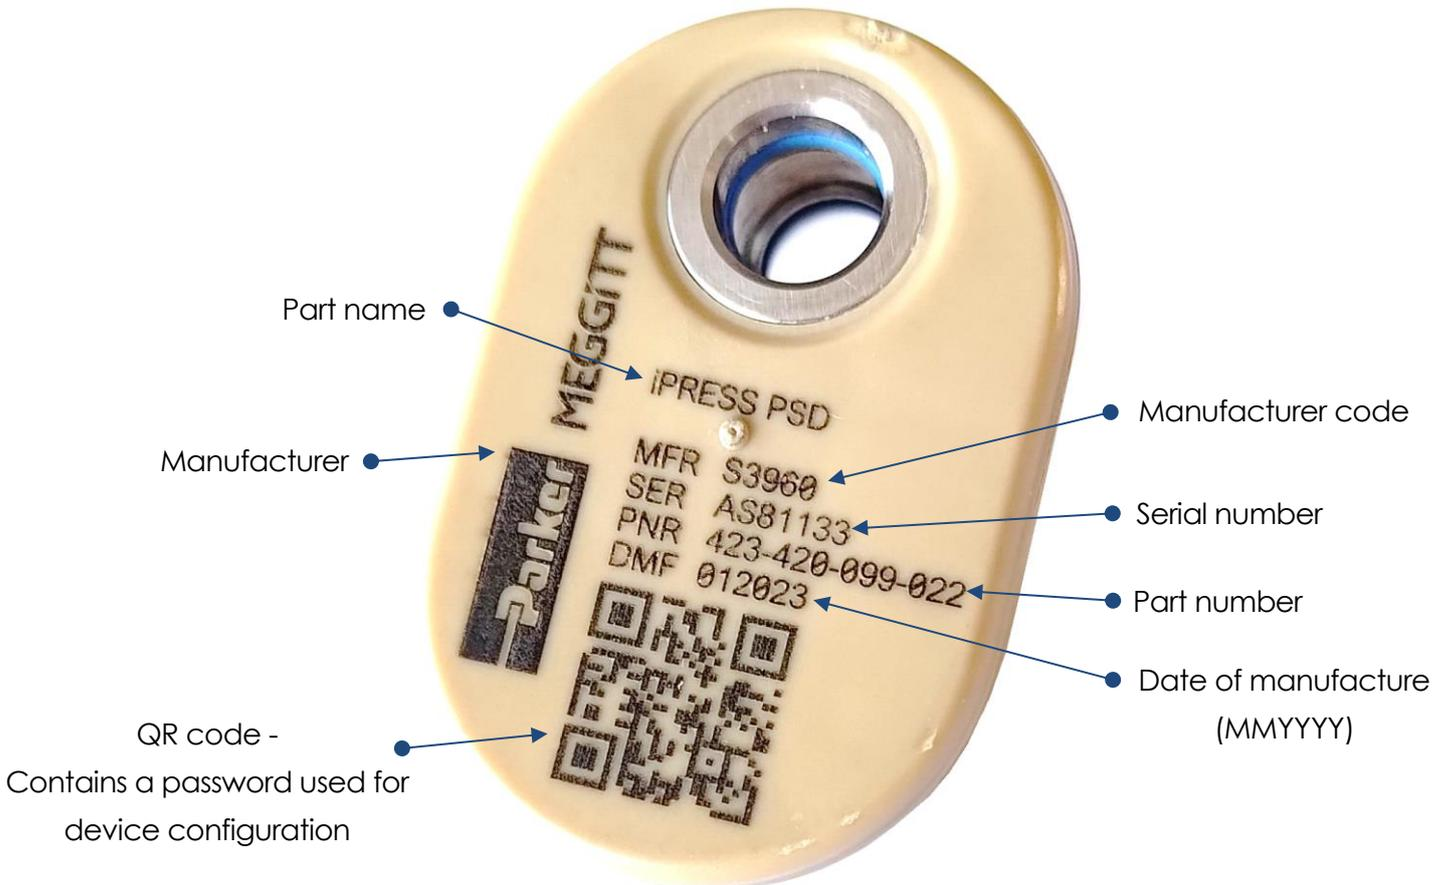

Figure 1
The part number of a sensor is engraved on its front face (see Figure 1) and can be displayed on the App (see chapter 7.2).
- b) Select the sensor(s) that you want to configure among the sensors detected by your smartphone. The sensors are identified with their serial number. The serial number of a sensor is engraved on its front face (see Figure 1).